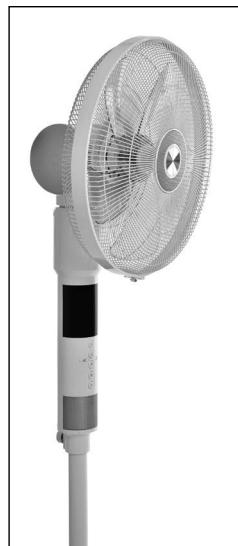

Fig. 13
10. Once the fan is properly assembled you can start using the appliance. (*Fig. 13*)